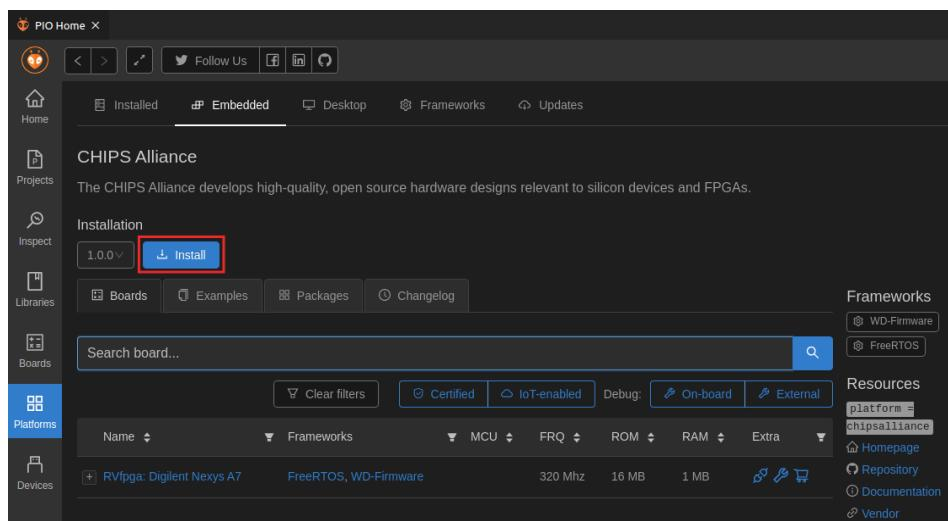

Figure 100. Installing the CHIPS Alliance Platform
2. After clicking on the **CHIPS Alliance** button, you will see the details of the Chips Alliance platform (as in Figure 100). Install it by clicking on the **Install** button (Figure 100).